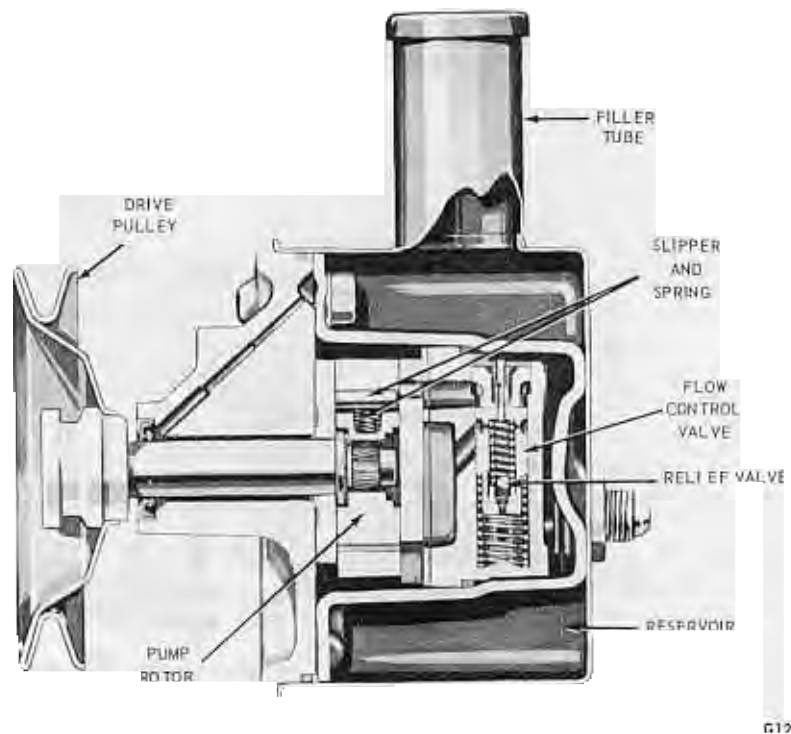

FIG. 4—Power Steering Pump—Sectional View
and up to approximately 2800 RPM and thereafter a lower rate of flow. This is accomplished by means of a variable orifice mechanism shown in Fig. 4.
The metering pin (Fig. 4) travels with the spool valve decreasing the net area of the orifice at higher speeds. This action reduces flow to the steering gear.
When relief pressure is reached, the pressure relief ball is forced off its seat, allowing oil to pass through the spool valve and dump into the bypass port (Fig. 4). The relief valve will continue to limit oil pressure to the relief setting for the duration of the overload condition.
2. Position the pulley to the pump shaft and install tool T65P-3A733A. Press the pulley on the shaft. (Refer to Fig. 4 for tool installation.) Then, remove the tool.